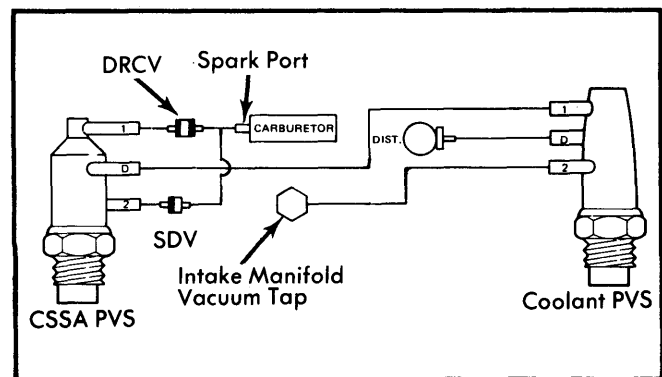

Fig. 1 Cold Start Spark Advance (CSSA) System
1) To test both CSSA PVS and Coolant PVS, connect a vacuum gauge to port "D" and an unrestricted vacuum source to port "2". See Fig. 1. With engine cold, no vacuum should be indicated. Warm engine to normal operating temperature and vacuum should be indicated at CSSA PVS with engine at normal idle.